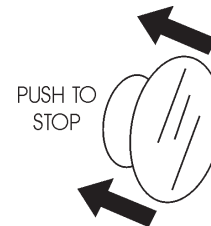

Figure 22. Start/Stop Button (Stop Position)
- Push the main **start/stop** switch (Figure 22) inward to stop the engine.